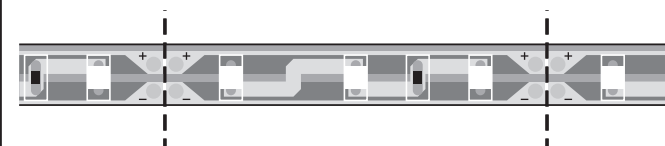
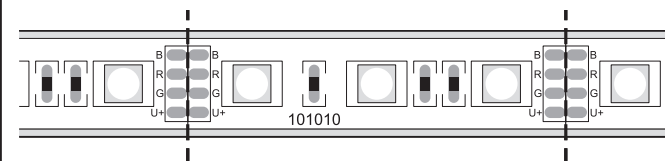

Figure 2
Figure 3
2. Shorten LED board if necessary (Fig. 2).
1. Shorten LED board if necessary (Fig. 3).
Always disconnect the mains plug before shortening. LED boards can be disconnected in each case after three LEDs (Fig. 2).
1. Cut through the LED board at the marked position (Fig. 2 single-colour, Fig. 3 RGB).